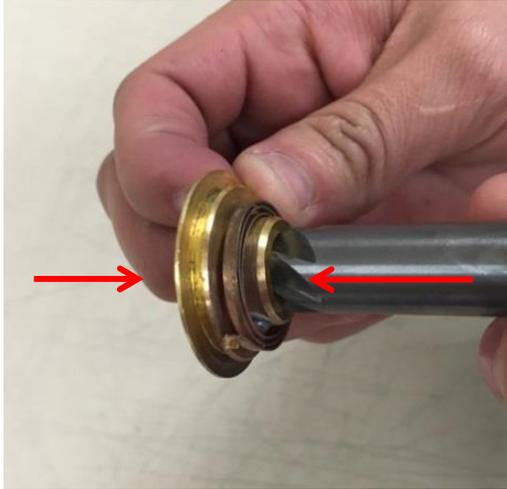

Figure 1
- 2.1 Remove the burs off both sides of the center hole of the InGage body using the edge deburring tool. (Figure 1)